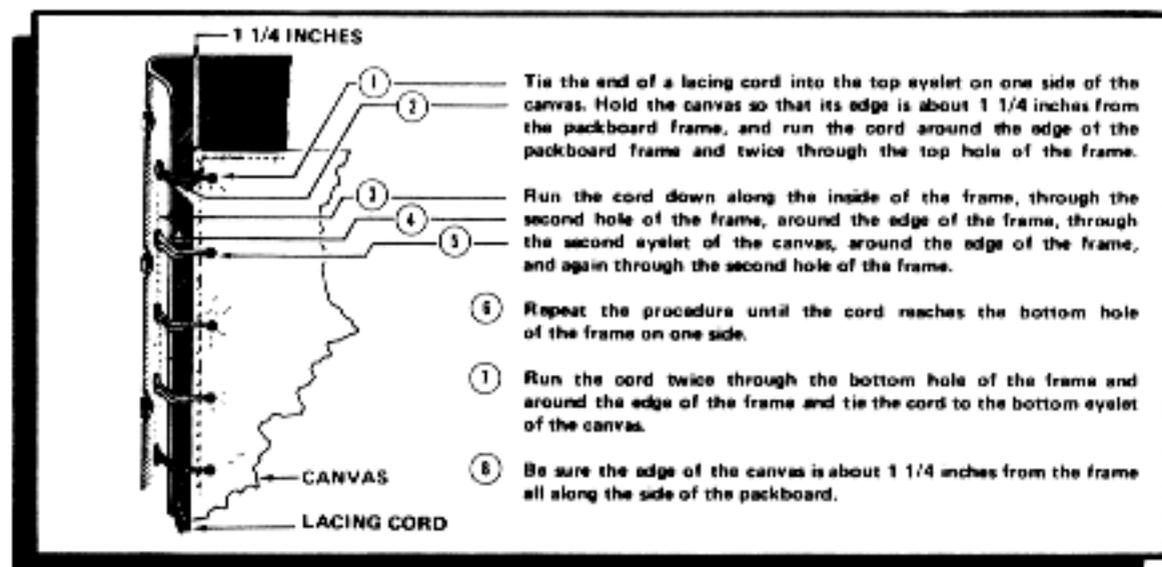

Figure 4-40. Lacing canvas backrest to frame.
**Lacing Canvas Backrest to Frame.** To lace the backrest to the frame, refer to figure 4-40. This procedure should be followed to lace both edges of the canvas.